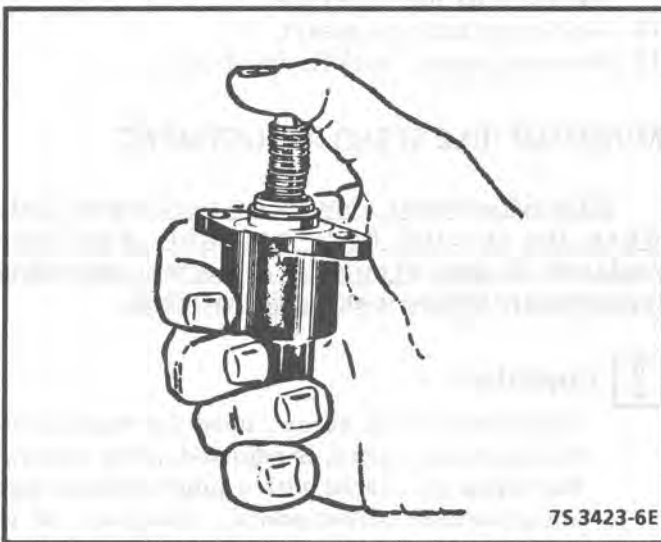

Figure C2-16 - Adjusting- Flange Type IAC Valve
- Exert firm pressure with a slight side-to-side movement on valve pintle to retract it (see Figure C2-16).